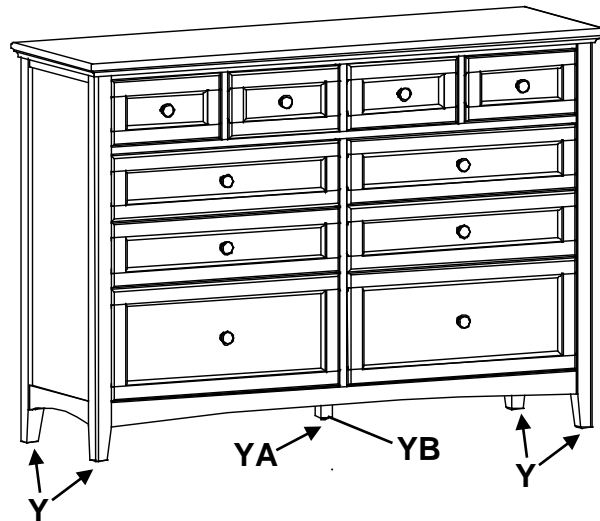

Fig. 2
2. Place the unit at its final destination. Rotate the Small Adjustable Glides (Y) found at the corners of the unit and the Adjustable Glide with Hex Nut (YA) at the bottom of the Assembled Foot (YB) until the unit is level. See Figure 2.